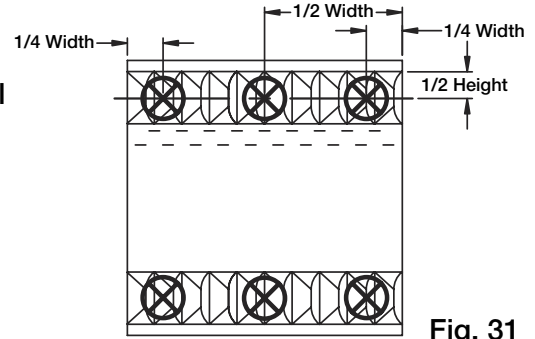

Fig. 31
- Measurement should be taken at six locations per filter. They must be over the inlet opening as shown in Fig. 31.